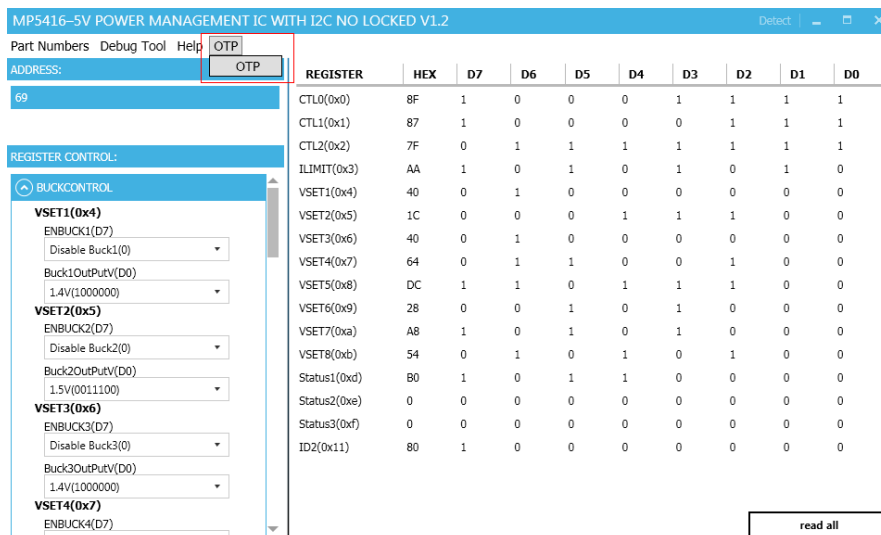

Figure 12: Select OTP, Located in Task Bar
- Select the OTP option from under GUI (see Figure 12).